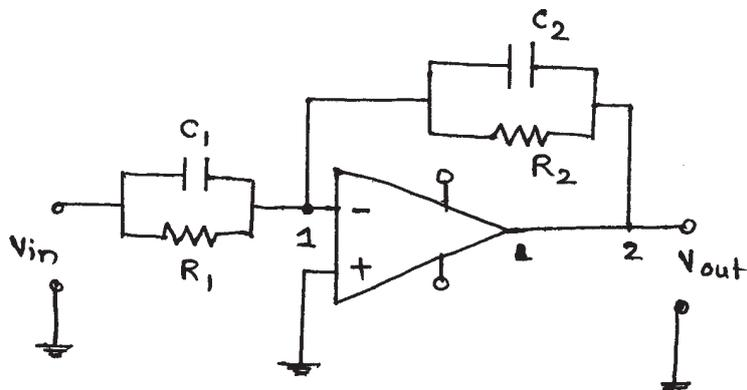

Fig 3. Q 2(b)
b) Find $\frac{V_o(s)}{V_{in}(s)}$ for the network shown in figure. 3. [6]